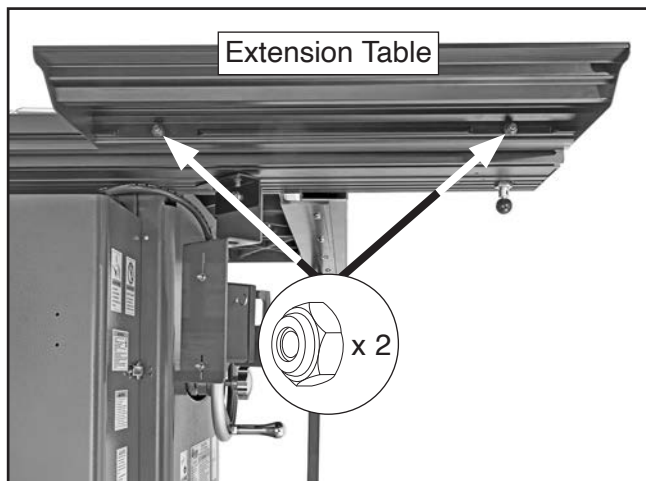

Figure 28. Location of extension table fasteners.
2. Loosen (2) M8-1.25 lock nuts (see **Figure 28**) securing extension table to sliding table.